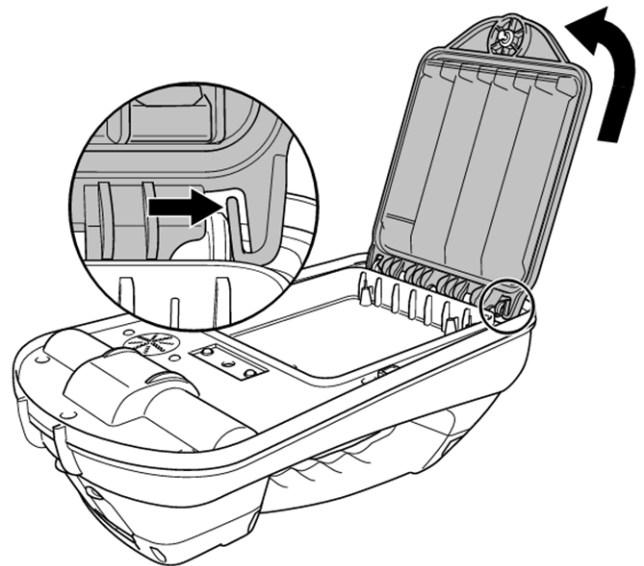
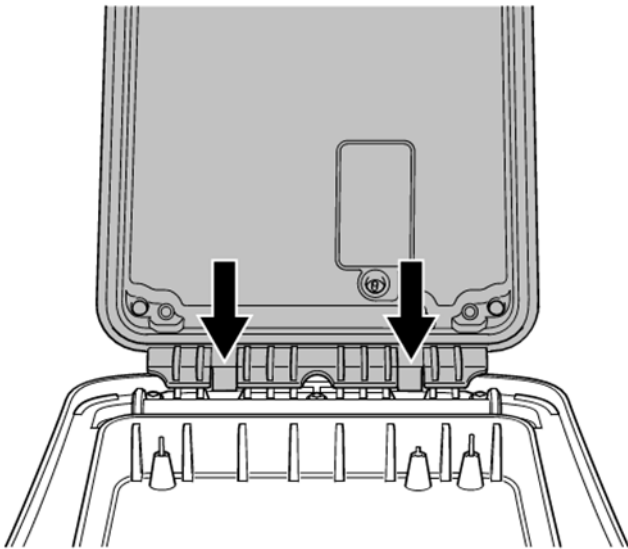

Figure 4.10: Press the release catch and lift the battery pack away
Figure 4.11: Line up the battery pack and press into position
- 3 Release the retaining catch (fig 4.10) by pressing gently, then lift the battery pack away (fig 4.11)
- 4 Line up the battery pack clips with the corresponding recesses on the transmitter body and press into place (fig 4.11)